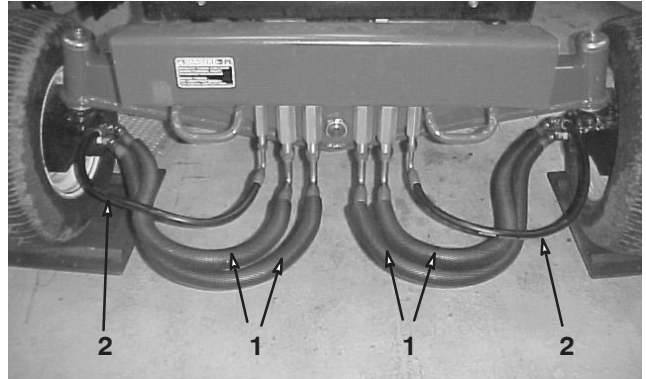

Figure 6
3. Install the hoses from the wheel motors to the bulkhead assembly (Fig. 6).